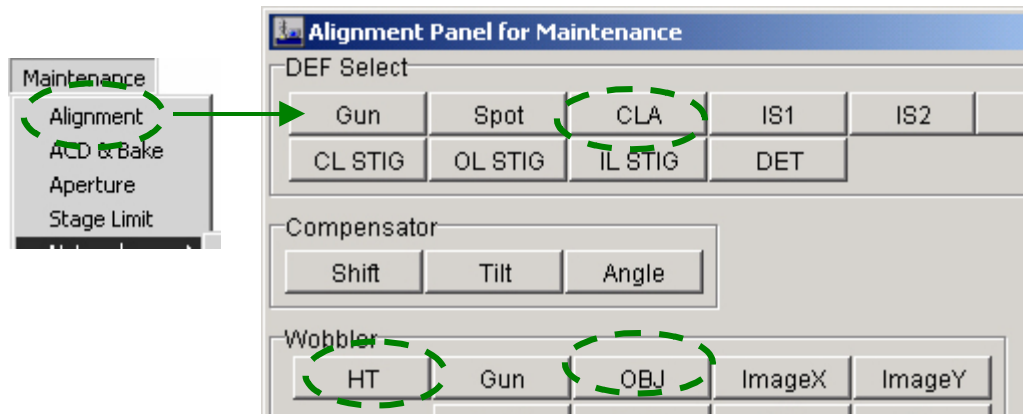

Fig. 5.27 Alignment Panel for Maintenance window
- ◆ Select **Maintenance** from the **TEM Controller** menu bar and click on **Alignment** to open the **Alignment Panel for Maintenance** window (☞ Fig.5.27).
2. Focus the image using OBJ FOCUS (R1-⑥).
4. Press the HT WOBB switch (R1-①) or click on Wobbler **HT** in the **Alignment Panel for Maintenance** window; the image then expands and contracts periodically.
5. Press the BRIGHT TILT switch (L1-⑤) or click on DEF Select **CLA** in the **Alignment Panel for Maintenance** window (☞ Fig.5.27).
6. Adjust DEF/STIG (L1-⑩, R1-④) so that the image expands and contracts around the center of the fluorescent screen.
7. Press the HT WOBB switch or click on Wobbler **HT** in the **Alignment Panel for Maintenance** window to turn it off (☞ Fig.5.27).